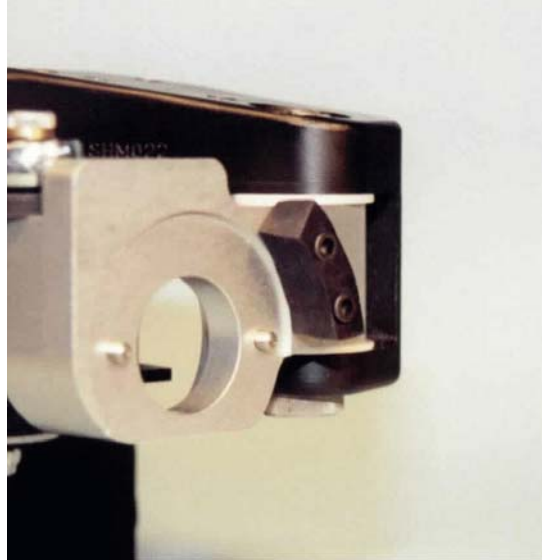

Figure 8.17- Shoulder pivot stop location
15. Attach a Shoulder Pivot Stop Assembly (T1SHM004) to the outer side of both the left and right Shoulder Yoke Mount Assemblies (T1SHM006 & T1SHM007) using two #8-32 x 5/8" SHCS {9/64} on each side. These pivot stops maintain the proper range of motion for the shoulder in this rotation. The location of the stops are shown in **Figure 8.17**.